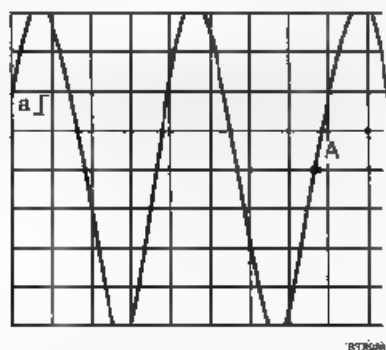

Figure 4.9 Trigger level indication on screen
- E Press the TRIGGER key. Use the select/adjust keys to verify that the trigger level range is more than 8 divisions (4 divisions up and 4 divisions down). The selected trigger level is shown on the display (reversed indication "⊕ LEVEL"). Also the trigger level indication, marked with an A ⊏ will shift, while shifting the trigger level. See figure 4.9.